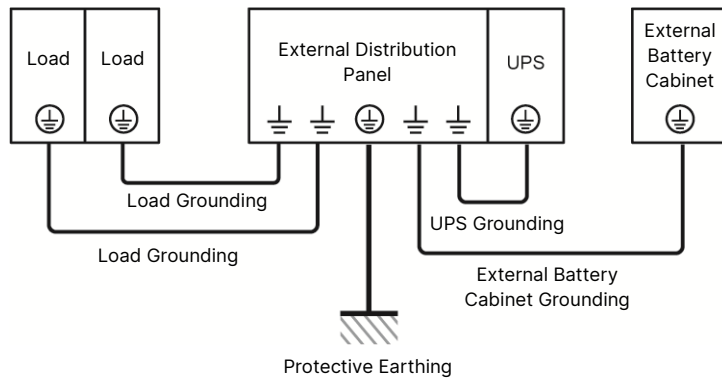
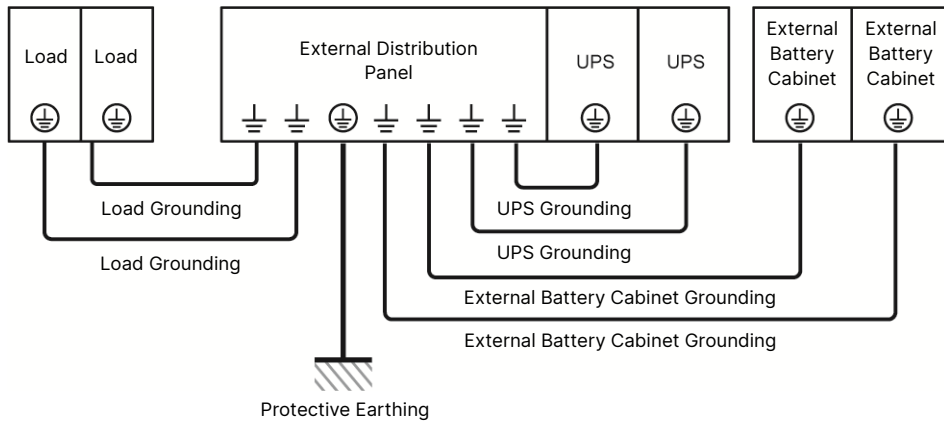

Figure 5-22: Grounding Diagram_ Single Unit
Figure 5-25: Grounding Diagram_ Parallel Units
Follow **Step 6** mentioned in **5.4.3.1 Single Input (Single Unit)** and refer to **Figure 5-22** to ground the UPS, external battery cabinet(s) and connected critical loads.
For single input, follow **Step 1 ~ Step 6** mentioned in **5.4.3.1 Single Input (Single Unit)**. As for the grounding diagram, please refer to **Figure 5-25** rather than **Figure 5-22**.
For dual input, follow **Step 1 ~ Step 4** mentioned in **5.4.3.2 Dual Input (Single Unit)**. As for the grounding diagram, please refer to **Figure 5-25** rather than **Figure 5-22**.
- For the external battery cabinet's grounding information, please refer to **Figure 5-22** and **Figure 5-25**.